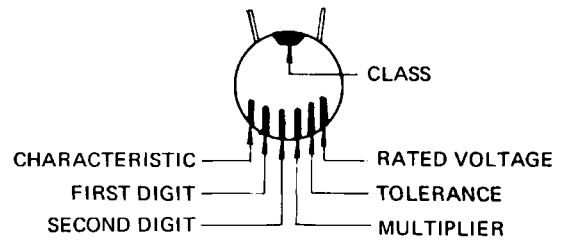

Figure 4-1 Resistor and Capacitor Color Code
**d. Component Value Color Codes.** Resistor values are indicated with standard RETMA color codes (see Figure 4-1 and Table 4-1). Capacitor values are indicated with the color codes shown in Figure 4-1 and listed in Table 4-3. Values of other components are marked on the body of the component.